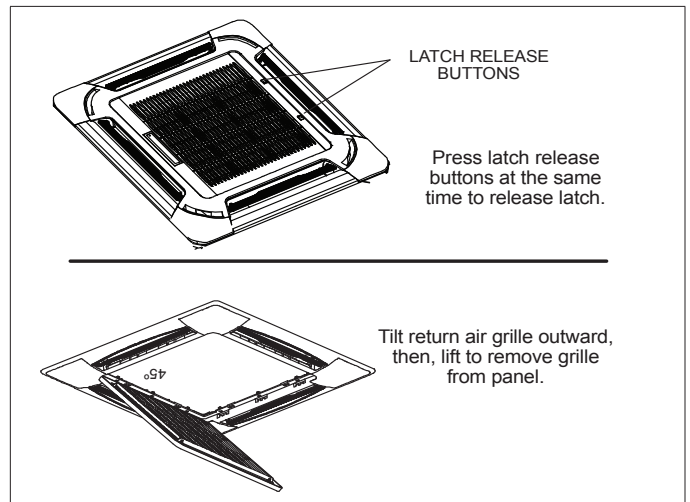

Figure 16. Remove Return Air Grille
- Press the two grille latch release buttons at the same time to release the grille as illustrated in "Figure 16. Remove Return Air Grille". Tilt the return air grille outward at a 45° angle and lift the grille away from the panel. Carefully place the return air grille off to the side.